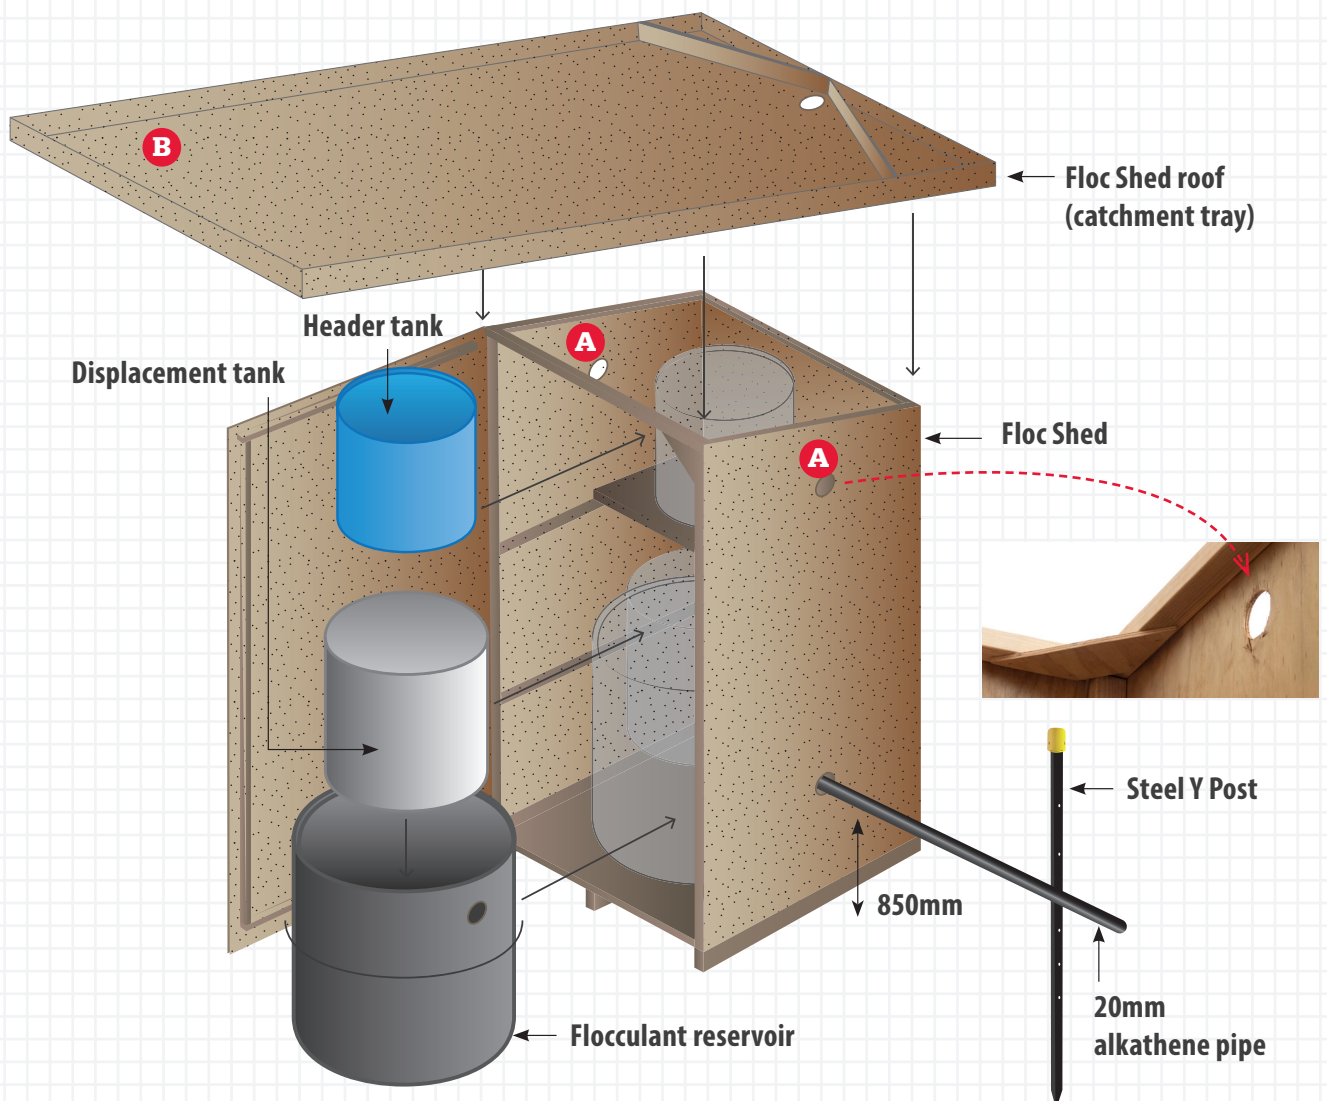

Fig. 1.1
- 1 Unloading: If no forks are available, you can use the two lifting holes at the top of the Floc Shed for ease of lifting using an excavator (see Fig. 1.1). After checking the door is securely closed and roof attached to the side of the shed, we recommend inserting a heavy-duty strap through these holes and carefully lift into position.
- Your roof should be strapped to the side of your shed (refer to Fig. 1.1) so you will need to hold the roof (we recommend having two people available for safety), cut the straps and gently lower this to the ground.